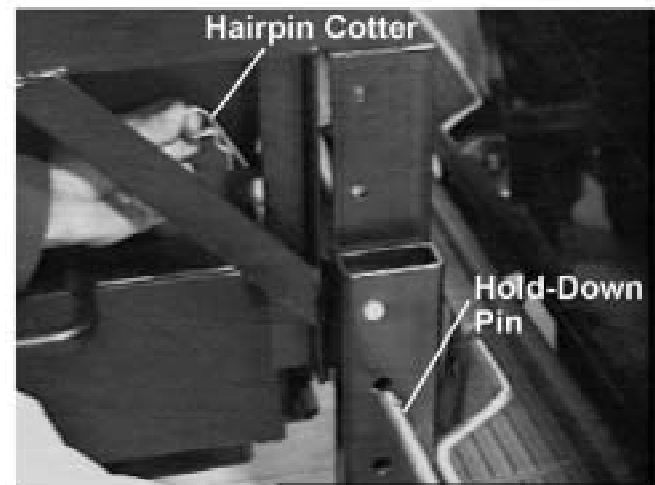

Figure 18
4. Insert hold-down pins on each side and secure with hairpin cotters. See Figure 18.